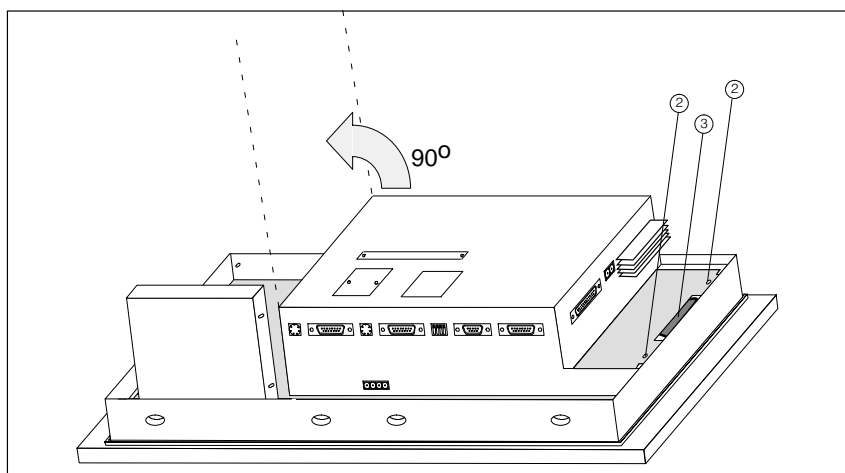

Figure 6-3 Undo screws from bracket of tiltable PC box
1. With reference to Figure 6-3, undo two screws ② fixing the tiltable PC box in position.
2. Lift the PC box slightly and remove the ribbon cable from connector ③ in the plate cutout.